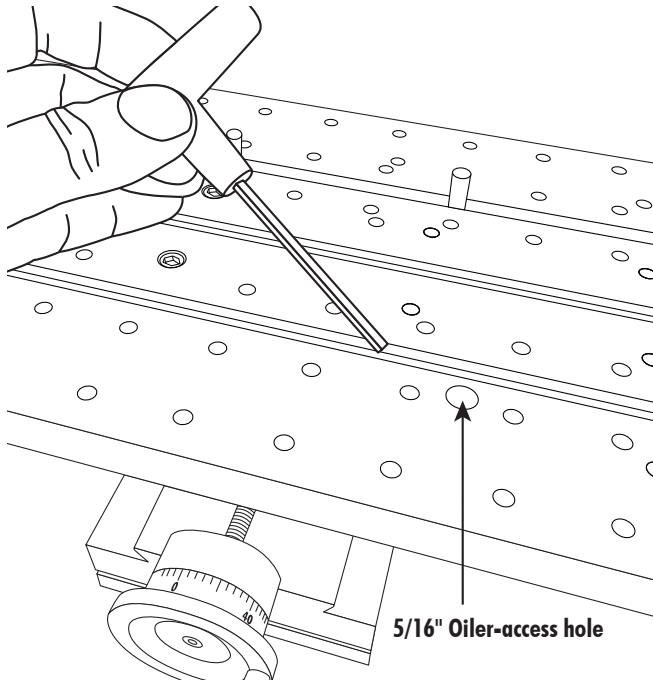

Figure 2—Oiler-access hole. Please note that the hex key is used for demonstration purposes only. It is not included with the tooling plate.
1. Add oil to the oiler in the saddle. There is an oiler-access hole in the tooling plate (See Figure 2).